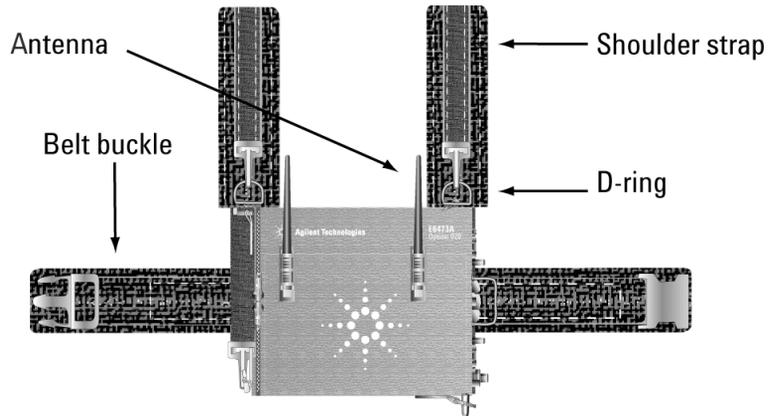

Figure 28 Carry pack outside view
- 3 Attach the clip-on receiver antenna to the pocket of pack. See Figure 28 on page 60 for an example.
- 3 Connect the two shoulder straps to the D-rings of the pack as shown in Figure 28.